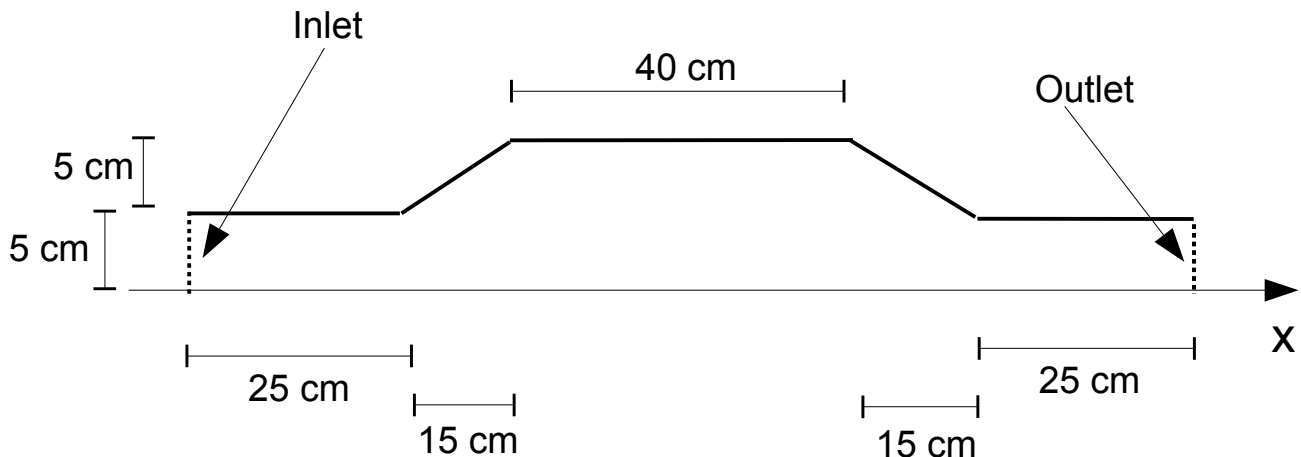

Fig. 2 The dimensions of the cross section of the pipe (not drawn to scale).
1. Consider a circular pipe with a bloated mid-section, as illustrated in Fig. 1. The detailed dimensions of the apparatus are given in Fig. 2. The x -axis is the axis of symmetry of the pipe. A uniform velocity is imposed at the inlet. Use ANSYS-Fluent to find the steady state solutions for the following three cases: (a) Inlet velocity = 5 cm/s. In this case, set "Model" to "Viscous - Laminar". (b) Inlet velocity = 20 cm/s. Also set "Model" to "Viscous - Laminar". (c) Inlet velocity = 80 cm/s: Explore the following two sub-cases: (c1) Set "Model" to "Viscous - Laminar"; (c2) Set "Model" to "Viscous - k-epsilon". In case (c2), you will also need to specify additional parameters for turbulence. Please use the same parameter values (e.g., the "turbulence intensity" at the inlet is 5%) as you did for the Tutorial in HW2.
Fig. 1. The pipe with a bloated mid-section. It is filled with regular liquid water. The red, green, and blue axes are the x -, y -, and z -axis, respectively. The left opening is the inlet and right opening the outlet. See Fig. 2 for detailed dimensions.